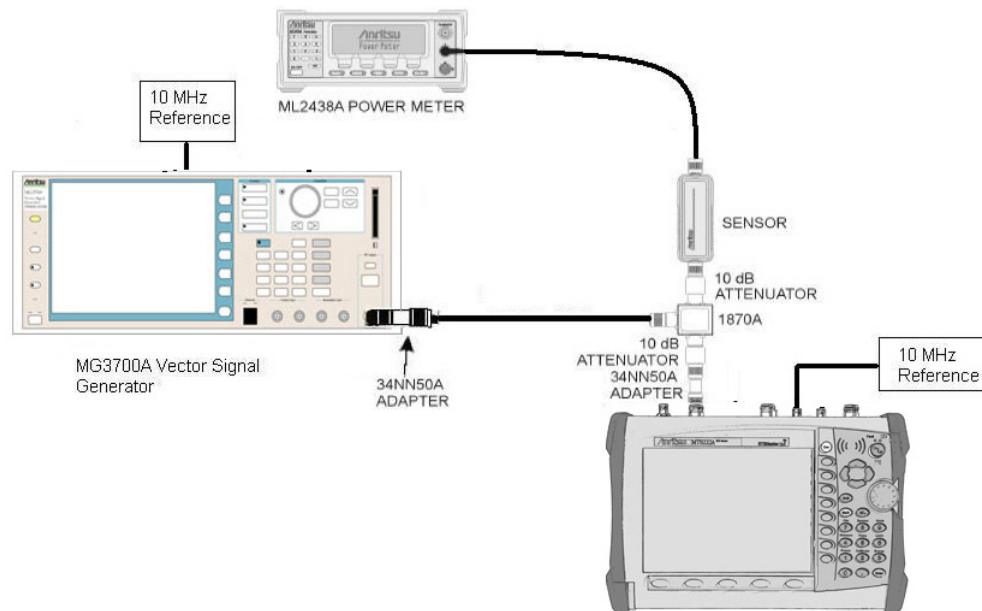

Figure 5-6. Fixed WiMAX Channel Power Accuracy Tests
3. Connect the Power Sensor, 1870A splitter, 10 dB attenuators (quantity 2), as shown in Figure 5-6.